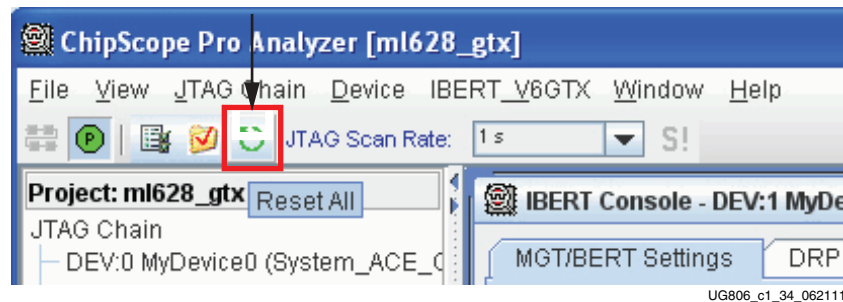

Figure 1-34: Reset All Button
- At the top of the ChipScope Pro analyzer window, click the **Reset All** button (Figure 1-34).